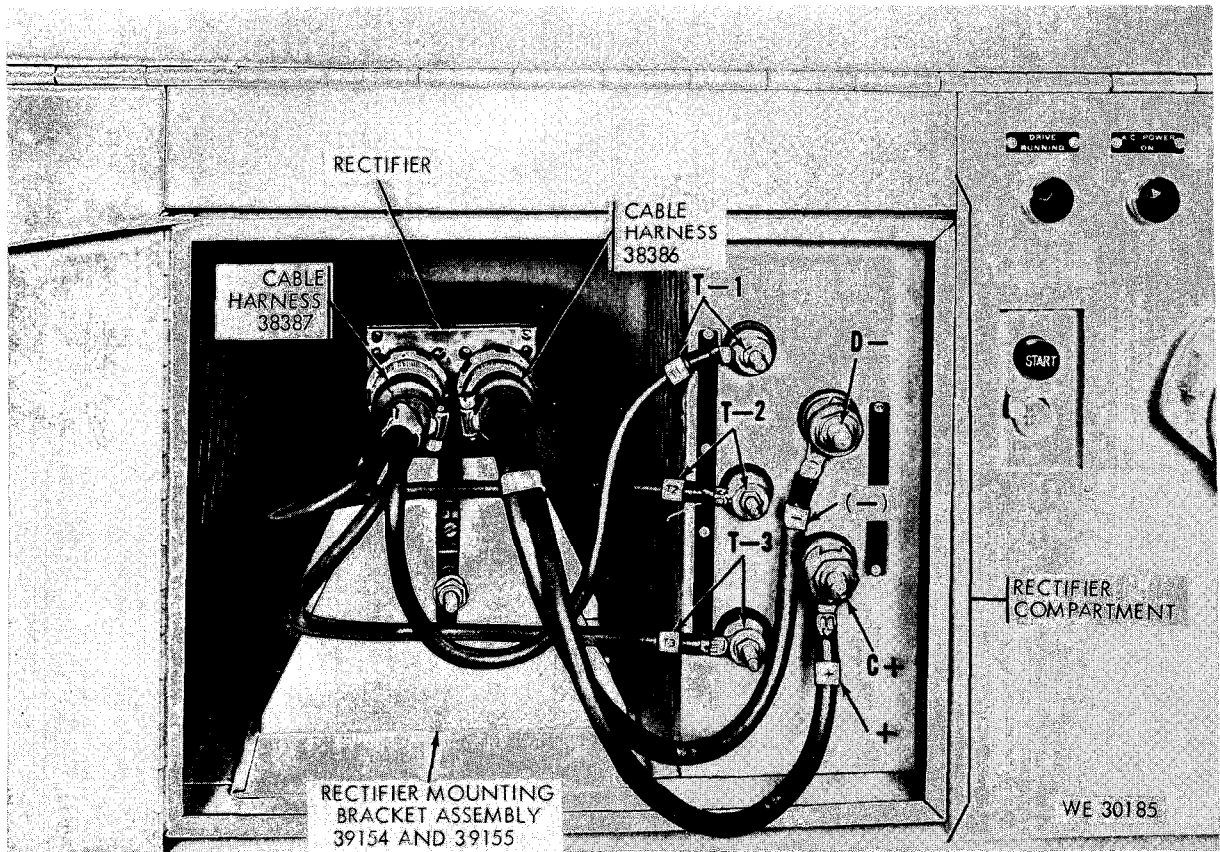

Figure 49. Leece-Neville Company no. C0011029CP ordnance no. 7954343 100-ampere rectifier - installed view and hook-up to test stand.
(3) *Rectifier.* (Used with pulley or direct-driven generator) (alternator) (figs. 49 and 52)
- (6) Remove the rectifier mounting bracket assembly from the rectifier compartment and mount a rectifier, *b.* above, (ordnance number 7954343) of known serviceable condition (see note *c* above) on the bracket assembly (fig. 49).
- (7) Place the rectifier and mounting bracket assembly (6) above, in the rectifier compartment as shown in figure 49.
- (8) Lower or raise the rectifier and mounting bracket assembly, so the rectifier is centered in the air flow of the air vents in the rectifier compartment, and with the fins of the rectifier vertical with the flow of air.
- (9) Connect the rectifier to the binding posts in the rectifier compartment, as shown in figure 49, using applicable cable harnesses (fig. 73). Close the rectifier compartment door.
Caution: Never allow the voltage reading on the dc voltmeter (4) to exceed 32 volts when performing the operation, (6) and (7) above, or the rectifier (fig. 49) may be damaged.
- (6) Remove the rectifier mounting bracket assembly from the rectifier compartment and mount a rectifier of known serviceable condition (par. 130*b* (Refer to TM 9-7003 or TB 9-2300-206-15 for checking rectifier) on the rectifier mounting bracket assembly (fig. 49).
- (7) Place the rectifier and mounting bracket assembly, (6) above, in the rectifier compartment as shown in figure 49.
- (8) Lower or raise the rectifier and mounting bracket assembly so the rectifier